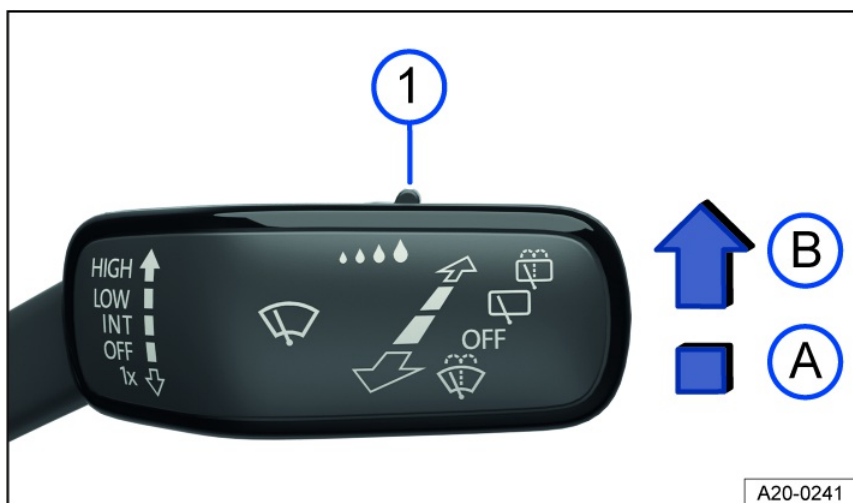

Fig. 77 On the right side of the steering column: windshield wiper lever.
1. Press the lever into the desired position fig. 77.
The sensitivity of the rain/light sensor can be manually adjusted with the switch in the windshield wiper lever fig. 77, ⇒ .